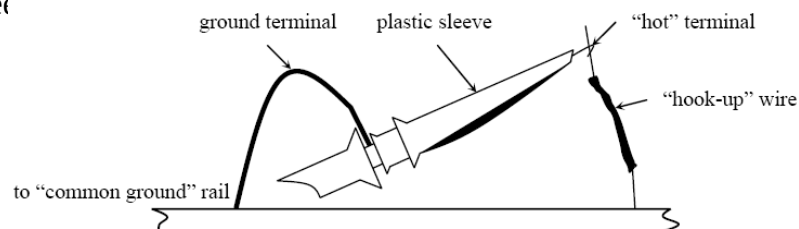

Figure 1 The Oscilloscope probe.
The best way to understand the features of the function generator is to observe the waveforms using the oscilloscope (at this point note **Figure 1** and related text). You will do more experiments using the oscilloscope in the second section. For the present, we will use the oscilloscope to observe some signals from the function generator.
- For the "hot" terminal of the probe always use a "hook-up" wire to measure a voltage. Do not attach the "hot" terminal directly to a circuit component and never take the plastic sleeve off the probe. (See Figure 1)